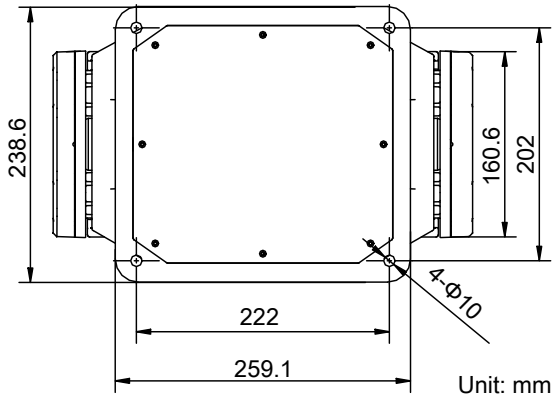

Figure 2-11 Positioning System Base Dimensions
5. Drill four holes on the installation position according to the Figure 2-11.